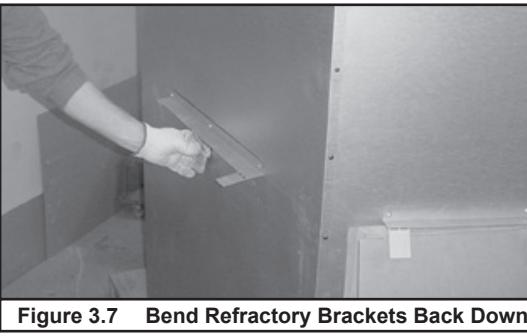

Figure 3.7 Bend Refractory Brackets Back Down
- Bend tabs back down out of the way. See Figure 3.7.